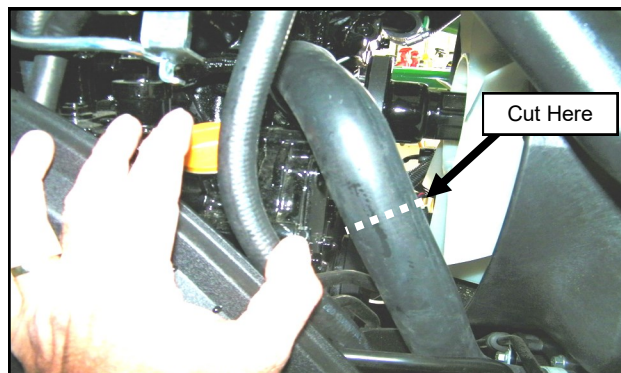

Fig. 20.2 (Cut Lower Radiator Hose)
- 20.2 Cut the lower radiator hose where shown. See Figure 20.2.